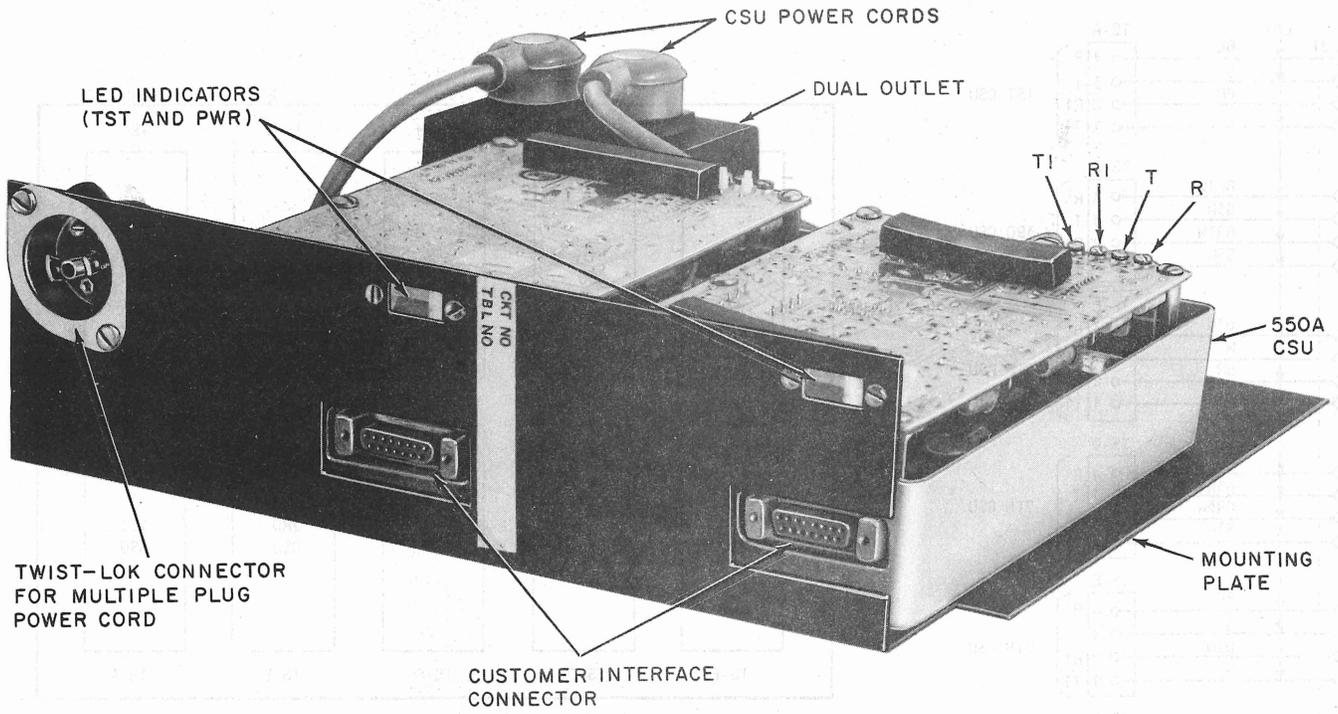

Fig. 7—Mounting Plate With Two CSUs
3.09 The 550A CSU must be adapted for mounting in the 48A-L1/3 data mounting. The L1/3 code provides a mounting plate which is required for mounting two CSUs in the data mounting (Fig. 7). If more than two CSUs are to be mounted, additional plates (one per two CSUs) must be ordered. The mounting procedure is as follows: